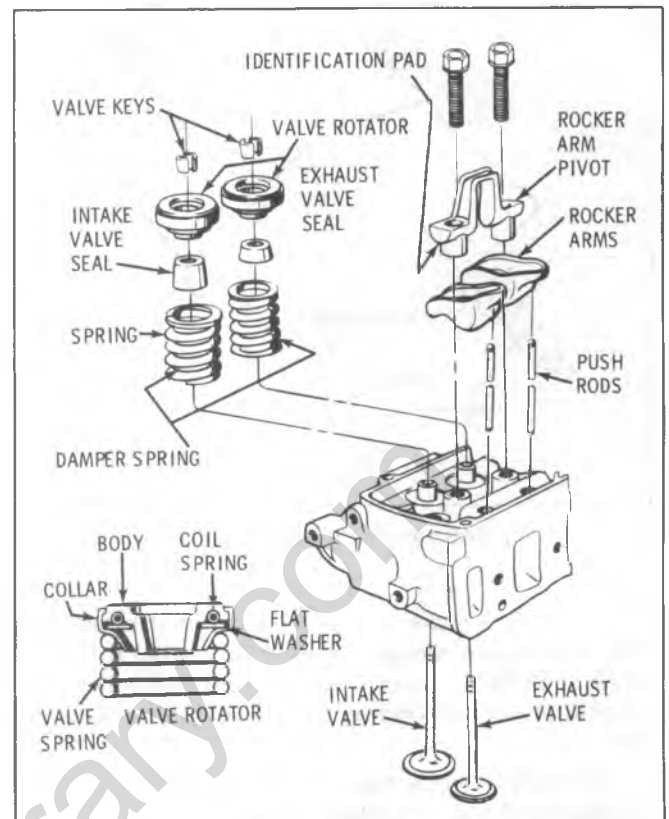

Fig. 6A6-42--Cylinder Head-Exploded View
a. Occasionally this noise can be eliminated by rotating the valve spring and valve. Crank engine until noisy valve is off its seat. Rotate spring. This will also rotate valve. Repeat until valve becomes quiet. If correction is obtained, check for an off square valve spring. If spring is off square more than 1/16" (1.6mm) in free position, replace spring. (Fig. 6A6-41).